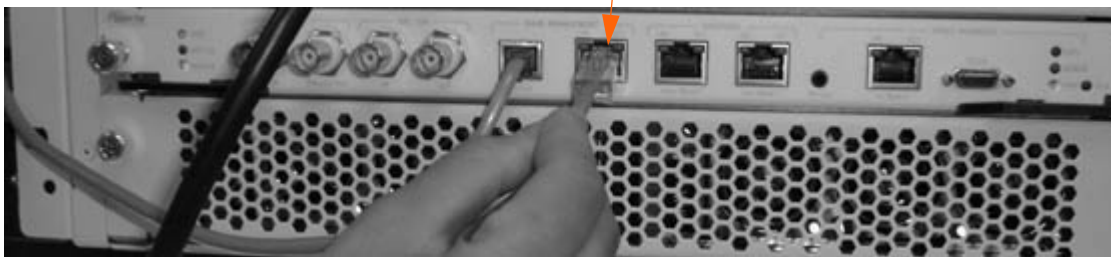

Figure 3-10 Connecting Cat 5 cable to the Backhaul port
- Use one end of the Cat 5 Cable with RJ45 Connector and connect to the Backhaul port on the MSC card as seen in Figure 3-10. Connect the other end of the serial cable to the ethernet port on a computer or switch.